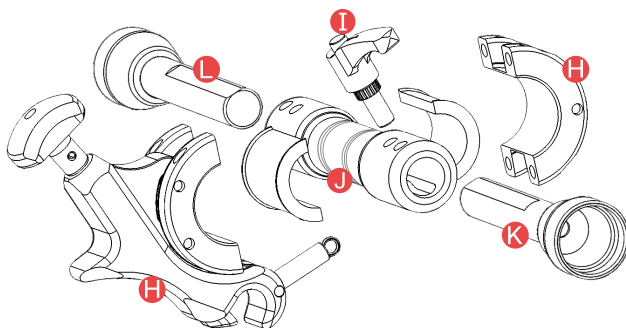
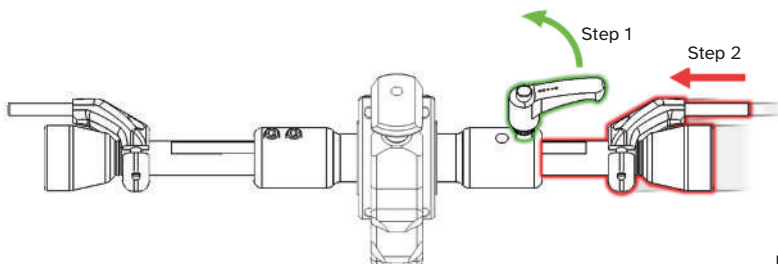
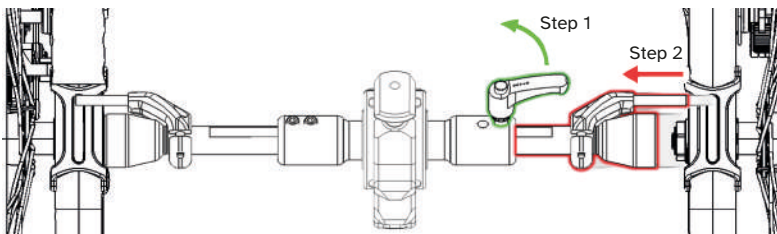

Figure 16
Figure 17
Figure 23
1. Unscrew the Clamping Lever (Figure 16 Letter I) by half a turn to release the telescopic axle (Figure 16 Letter K). (Figure 17).
2. Retract the telescopic axle (Figure 16 Letter K) until it reaches its minimum extension. Do not tighten the Clamping Lever before reaching step number 5 (Figure 17).
1. Unscrew the Clamping Lever (Figure 16 Letter I) by half a turn to release the telescopic axle (Figure 16 Letter K). (Figure 23).
2. Retract the telescopic axle until it reaches its minimum extension (Figure 23).